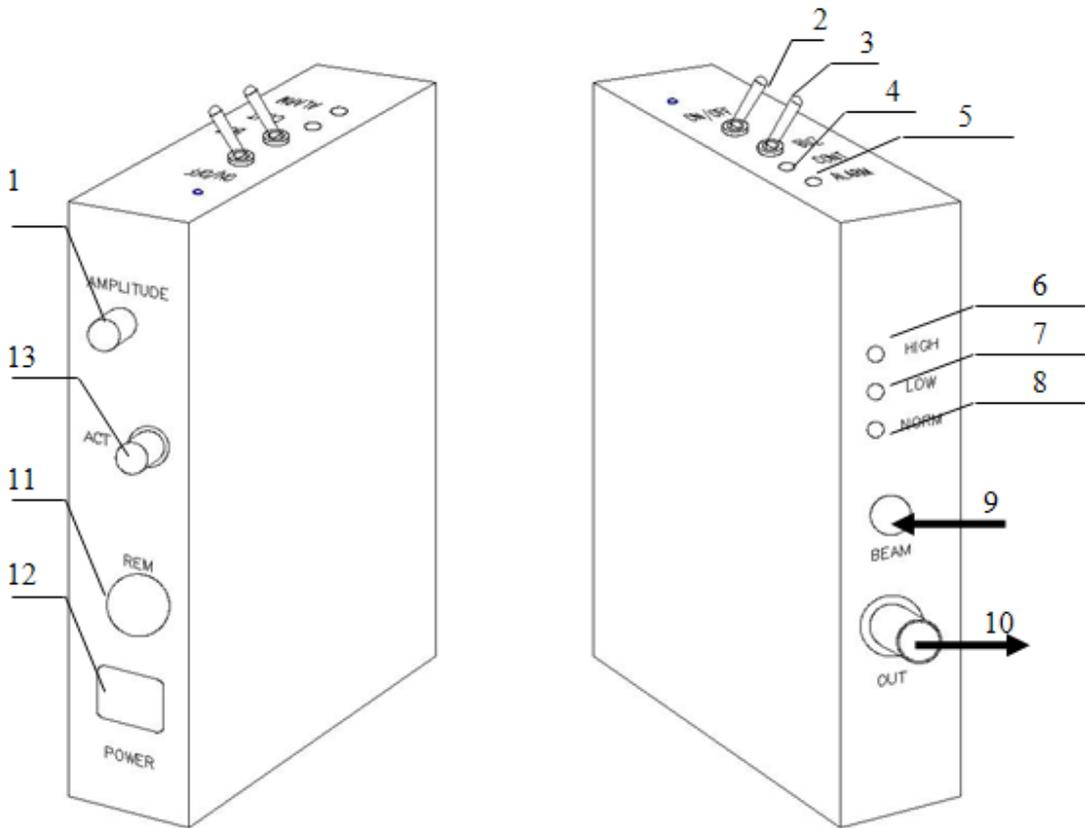

Fig. 21
5. Direct a part of output radiation (≤ 10 mW) to the photodiode of the LS-6.0. At suitable level of light, the green LED "Normal" is on (8 in *Fig. 21*).
6. Connect the 50-Ohm BNC connector (10 in *Fig. 21*) of the LS-6.0 to a 400 MHz oscilloscope.
8. Switch on pulse-enable switch (2 in *Fig. 21*). Green LED "control" (4 in Fig.5.2) lights on.
9. Rotate amplitude adjust (1 in *Fig. 21*) clockwise (i.e. maximize deviation of prism).